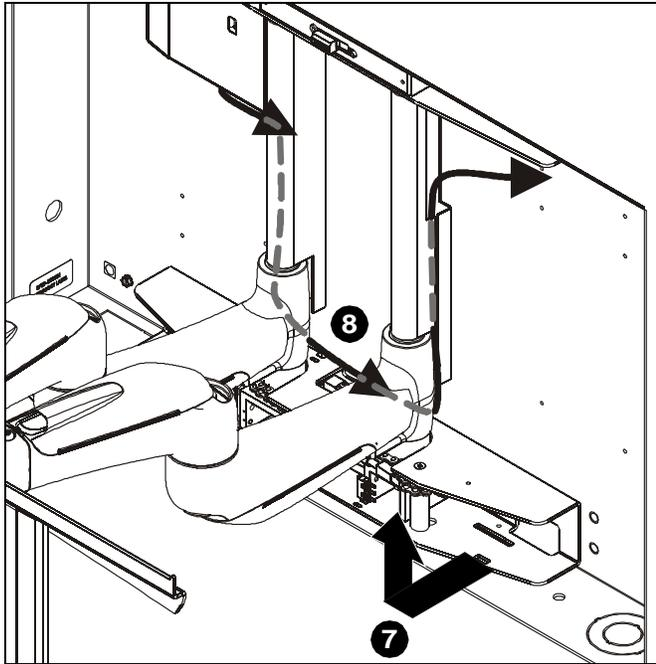

Figure 21
7. Carefully lift up and out slightly on bottom of PXR. (See Figure 21)
8. Route power cord and cables through cable management areas as noted. (See Figure 21)